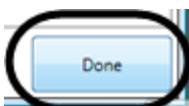

Figure 346
- When you are finished restoring all the motors, press the **Done** button to close the **Restore Cue** window (Figure 346).